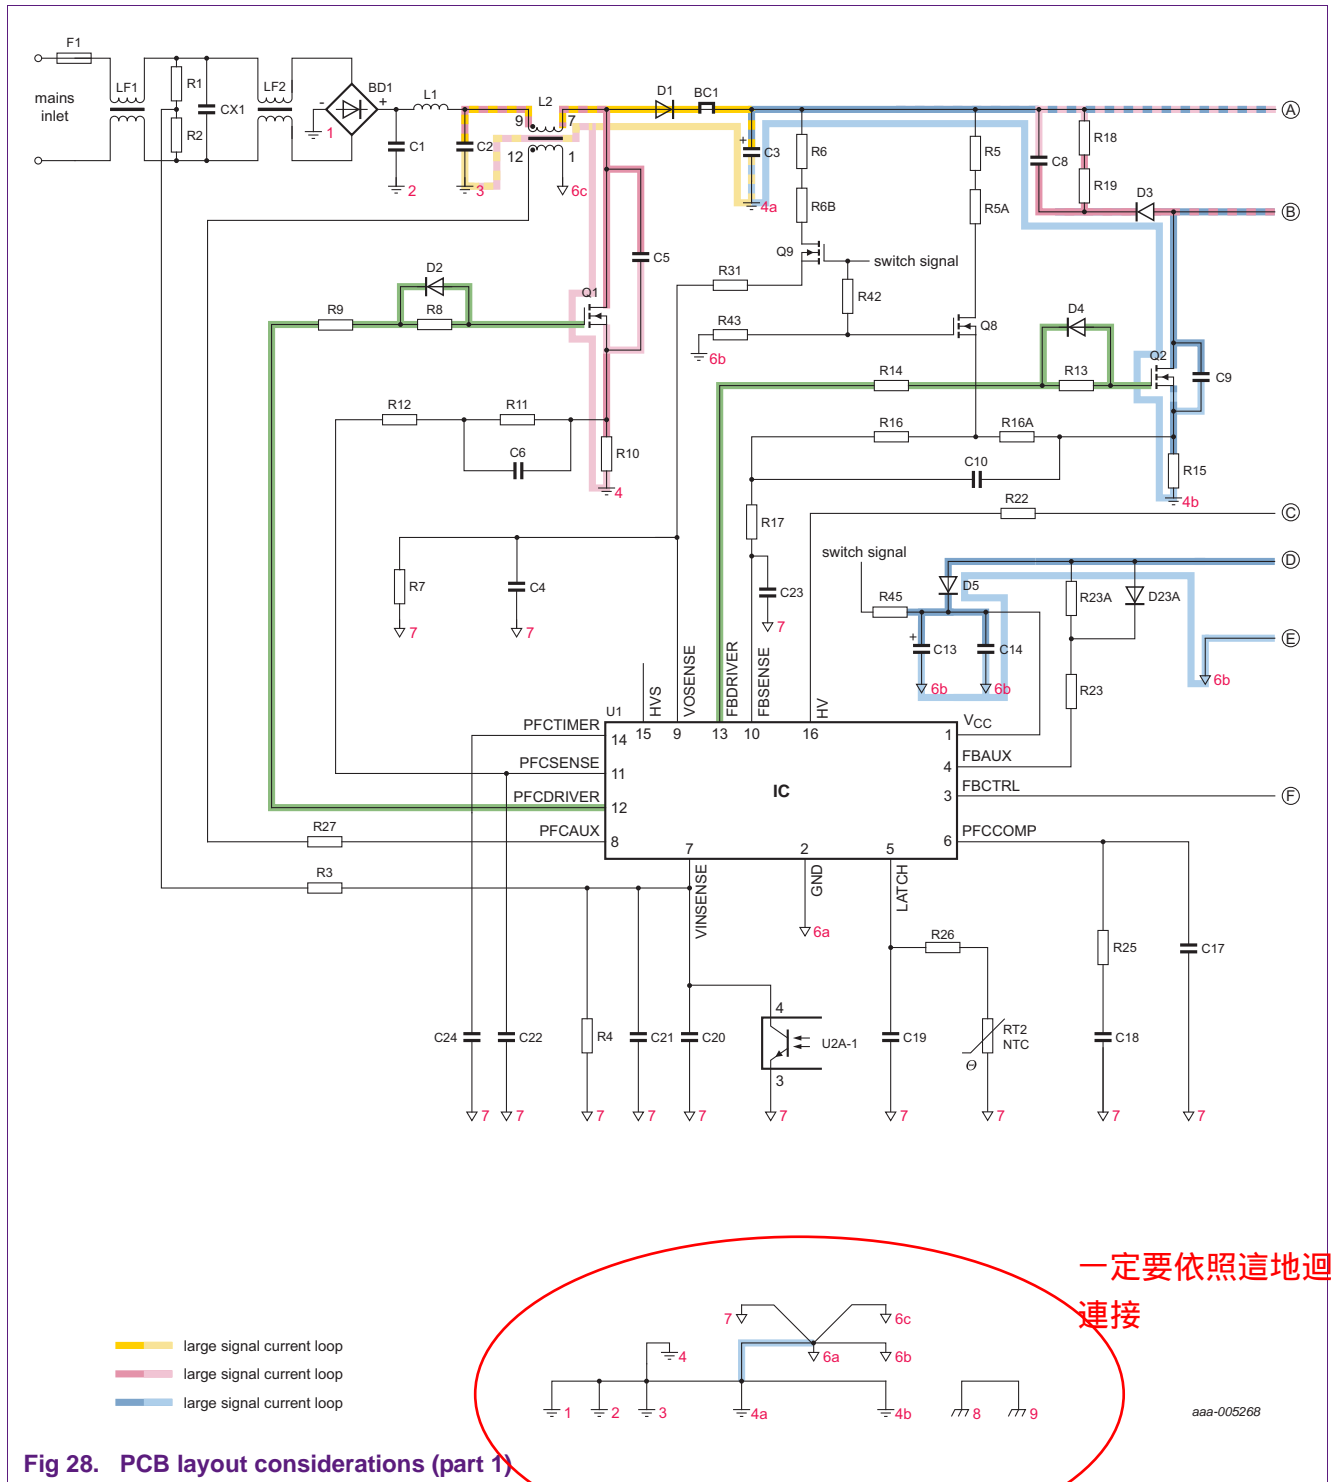

Fig 28. PCB layout considerations (part 1)
- Separate large signal grounds from small signal grounds (see Figure 28). A triangular symbol indicates small signal grounds. All other ground symbols are related to large signal grounds
- Make the print area within the indicated large signal loops (see Figure 28) as small as possible. Each indicated large signal loop has its own color. Make the copper tracks as short and wide as possible
- The connection between both MOSFETs (PFC and flyback) and the IC driver outputs must be as short as possible (green line in Figure 28). Use wide tracks. Increase the distance between the copper tracks and/or preferably using a separate guided ground track for both connections minimizes the coupling between the PFCDRIVER and FBDRIVER. A circuit diagram according to Figure 27 can be added in case it is impossible to locate the MOSFET and IC close to each other.
- The power ground and small signal ground are only connected with one short copper track (make this track as short and as wide as possible). Preferably it should become one spot (connection between ground 4a and ground 6a, shown as a green line in Figure 28)
- Figure 28 shows an overview of the hierarchy of the different grounds at the bottom
- Make the connection between MOSFET Q4 and the TEA1792 driver pin as short as possible (green line in Figure 28). Use a guided ground track